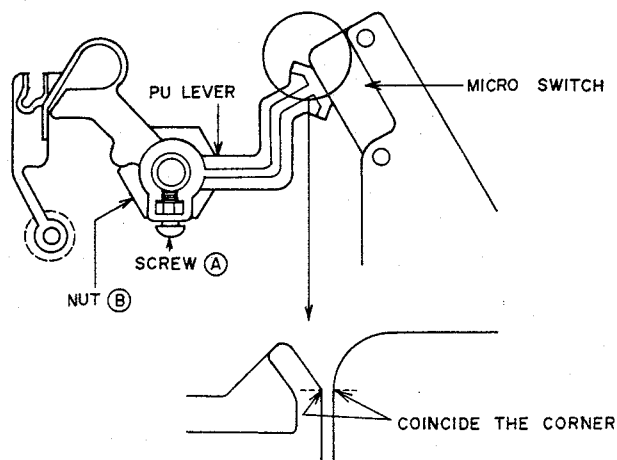
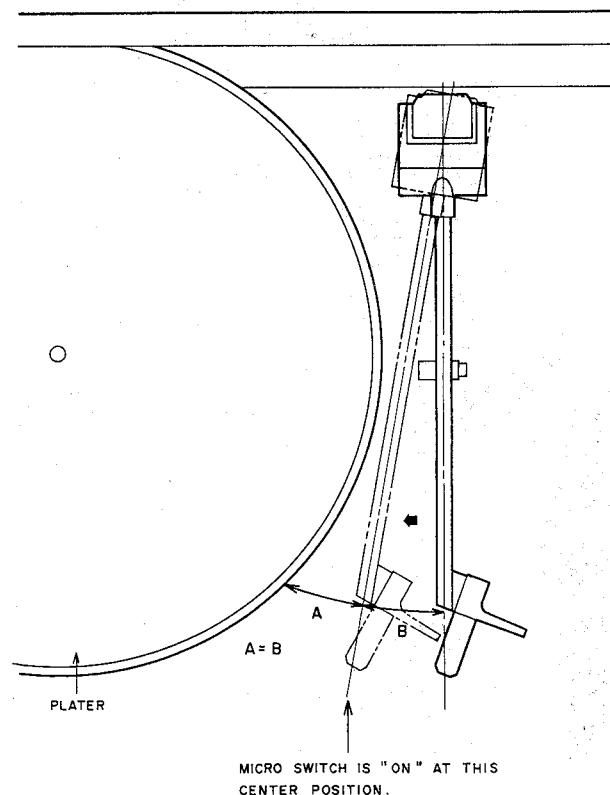

Fig. 7-4
Fig. 7-5
7-3 RETURN ARM POSITION ADJUSTMENT (Refer to Figs. 7-4 & 7-5)
- 2) Loosen the Screw (A), and confirm that the PU LEVER is installed all the way in the Nut (B).
- 3) Turn the PU LEVER so that the corner of those PU LEVER and Micro switch are coincide as shown in Fig. 7-4.
- 4) Tighten the Screw (A).
- 5) Move the Tone Arm to the spindle side, and confirm that micro switch is switched "ON" at about center between Tone Arm Rest position and plater as shown in Fig. 7-5.